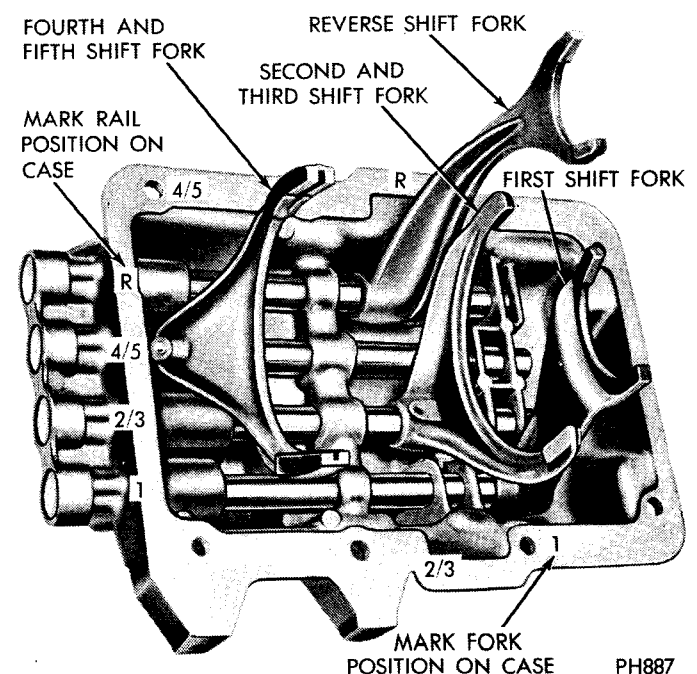

Fig. 7—Transmission Cover
(1) Mount the cover in a bench fixture or soft-jawed vise. Mark each fork and rail for location at assembly (Fig. 7). Shift all the shifter rails into neutral position.
(2) Remove roll pins from shifter forks and rail ends. Roll pins may be removed by using a square type "easyout" installed in a tap handle or improvised holder.
(3) Drive fourth-fifth speed shift rails forward and out front of transmission cover, then, remaining center (second-third) rail. Place a cloth over shift rail while driving out, to prevent loss of interlock balls, pins and springs.
(4) Drive out reverse and first speed rails.
(5) Remove six interlock balls and two interlock pins from shift rail support. It may be necessary to shake or tap transmission cover to remove interlock balls and pins.